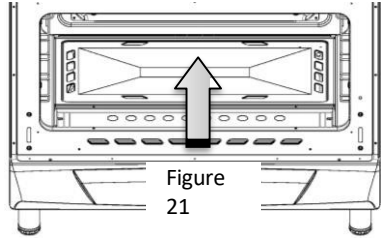

Figure 21
- Lift up the burner housing sheet first in direction of arrow and then upward towards the inside of the boiler and pull towards you to remove the sheet (figure 21)